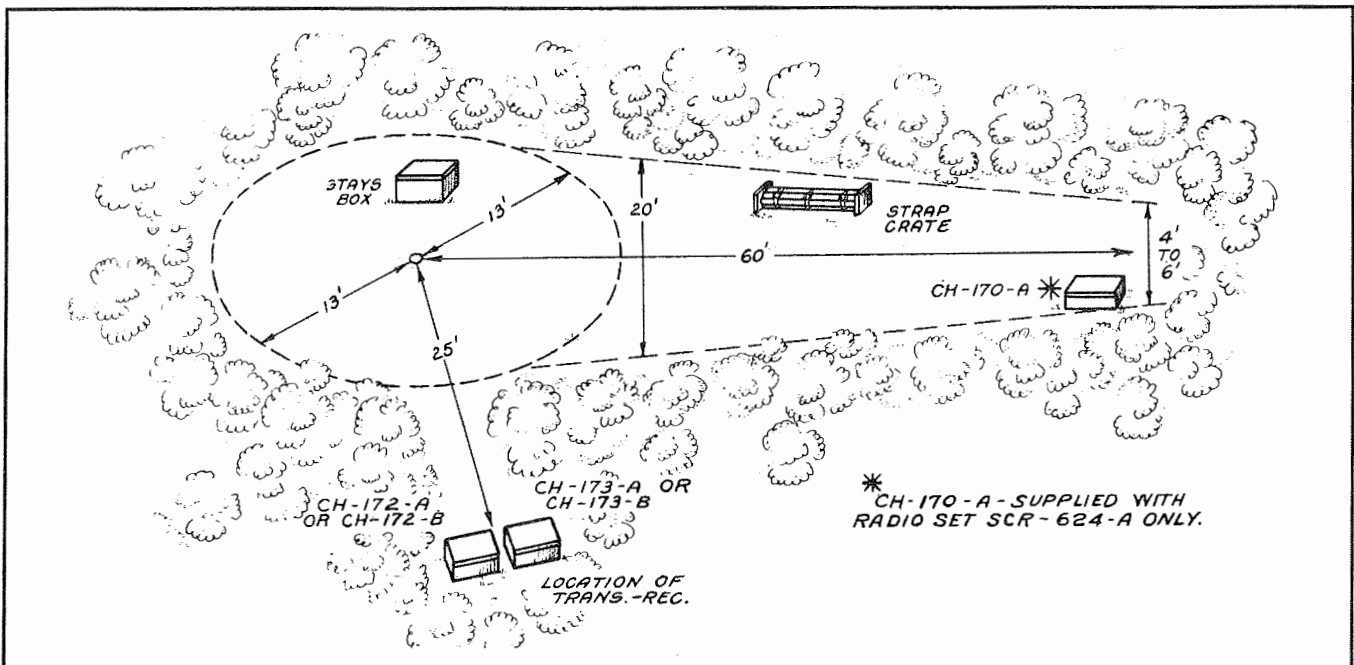

Figure 2-3. Antenna Mast MA-7-A—Location and Assembly Size
a. CHOICE OF SITE.—In choosing a site for erection of Radio Set SCR-624-A, or SCR-624-B, make certain that the site is not over 500 feet from a telephone line (if telephone line connection is required), and not over 50 feet from an a-c single phase power source of 40 to 60 cycles at 100 to 130 volts or 200 to 260 volts (Power Unit PE-75-D may be used when no power line is available). Select a well cleared area, sufficiently large for assembly and erection of the antenna mast (see fig. 2-3); and one that is fairly level, with a slope not exceeding one foot (rise or fall) in seven feet distance.
(1) Thoroughly clear an area approximately 26 feet in diameter.
(2) Place the stays box and spare parts box near the center of this cleared area. In one direction from the center of the cleared area provide additional cleared space for a distance of approximately 60 feet in length. In width, gradually taper it from 26 feet at center location to 4 to 6 feet at the far end of the area. (See fig. 2-3.)